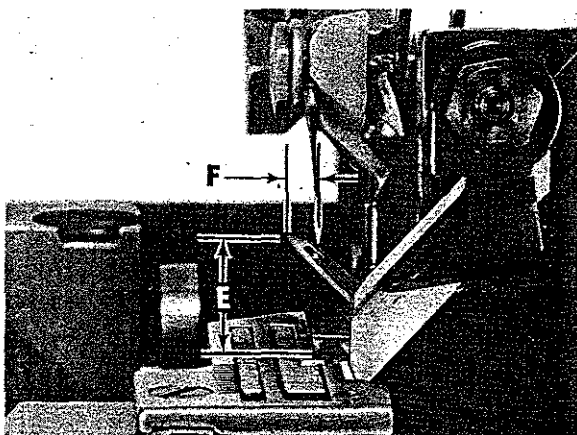

Fig. 13
4. Again rotate handwheel in operating direction until the upper looper is at the extreme left end of travel. Loosen screw (C, Fig. 11) and rotate upper looper holder as required to set point of upper looper to dimension "E" Fig. 13 from top of throat plate.
5. With upper looper still positioned at the left end of travel, it may be necessary to adjust the looper holder in or out of its shaft to set point of looper to dimension "F" Fig. 13 to the left of needle and/or right needle centerline. Rotate handwheel to position upper looper to the right end of travel, then tighten screw (C, Fig. 11) and screw (A) securely.